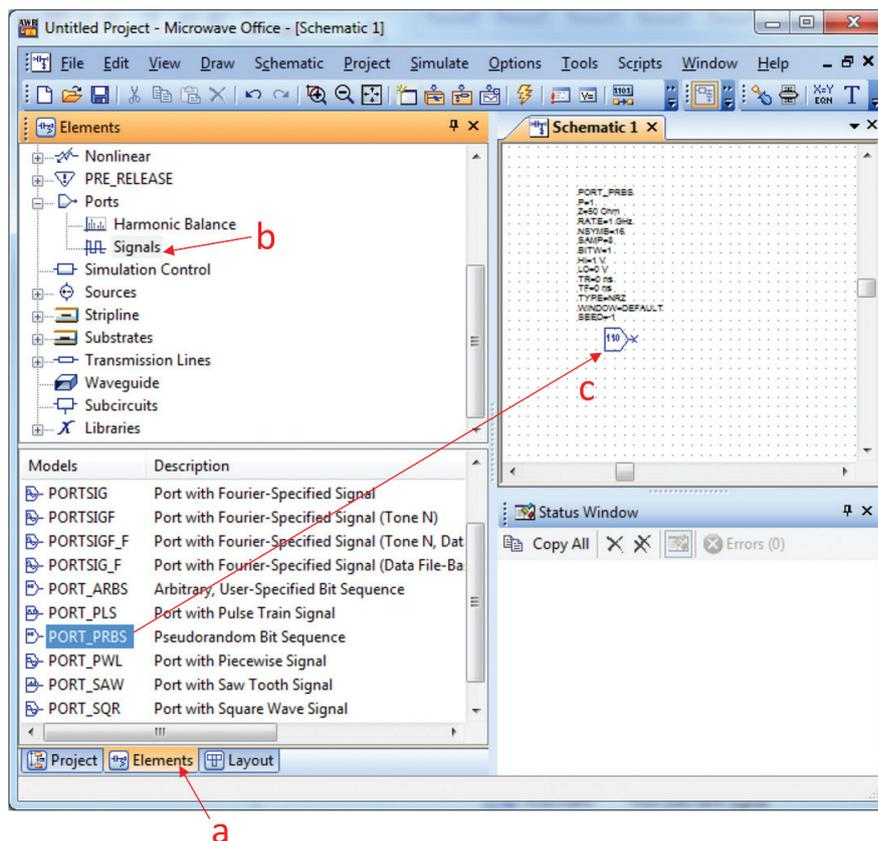

Figure 3: Add PRBS Port to Schematic
4. Add Pseudorandom Bit Sequence Generator to schematic as shown in Figure 3.